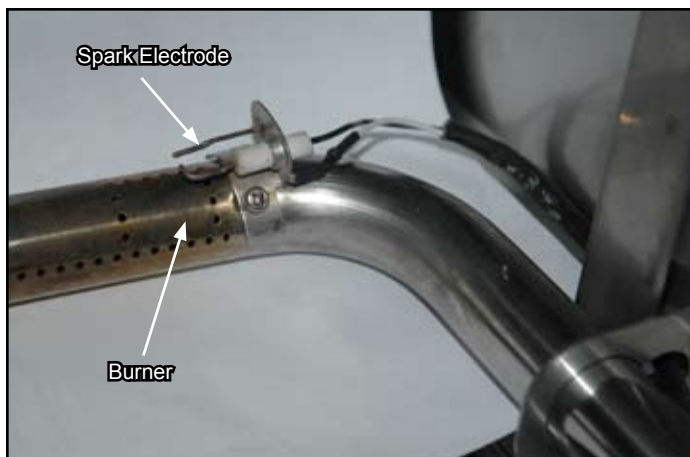

Figure 21
**Correction:** Check for proper position of the electrode tip. The tip of the electrode should be pointing over burner ports at the top of the burner. The gap between the spark electrode and the burner should be 1/8 inch. Adjust if necessary. With the gas supply closed press and turn ignitor control knob counterclockwise and check for presence of spark. See Figure 21.